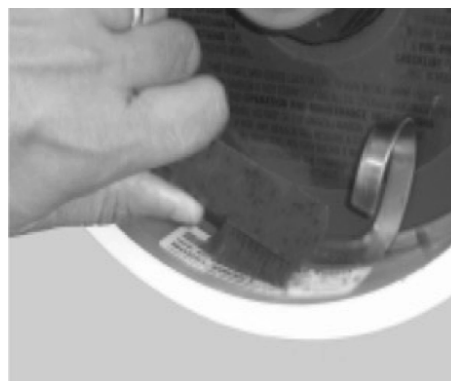

Figure 9
- Loosen any deposits with a small wire brush or medium grade 3M ScotchBrite™. See **Figure 9**.